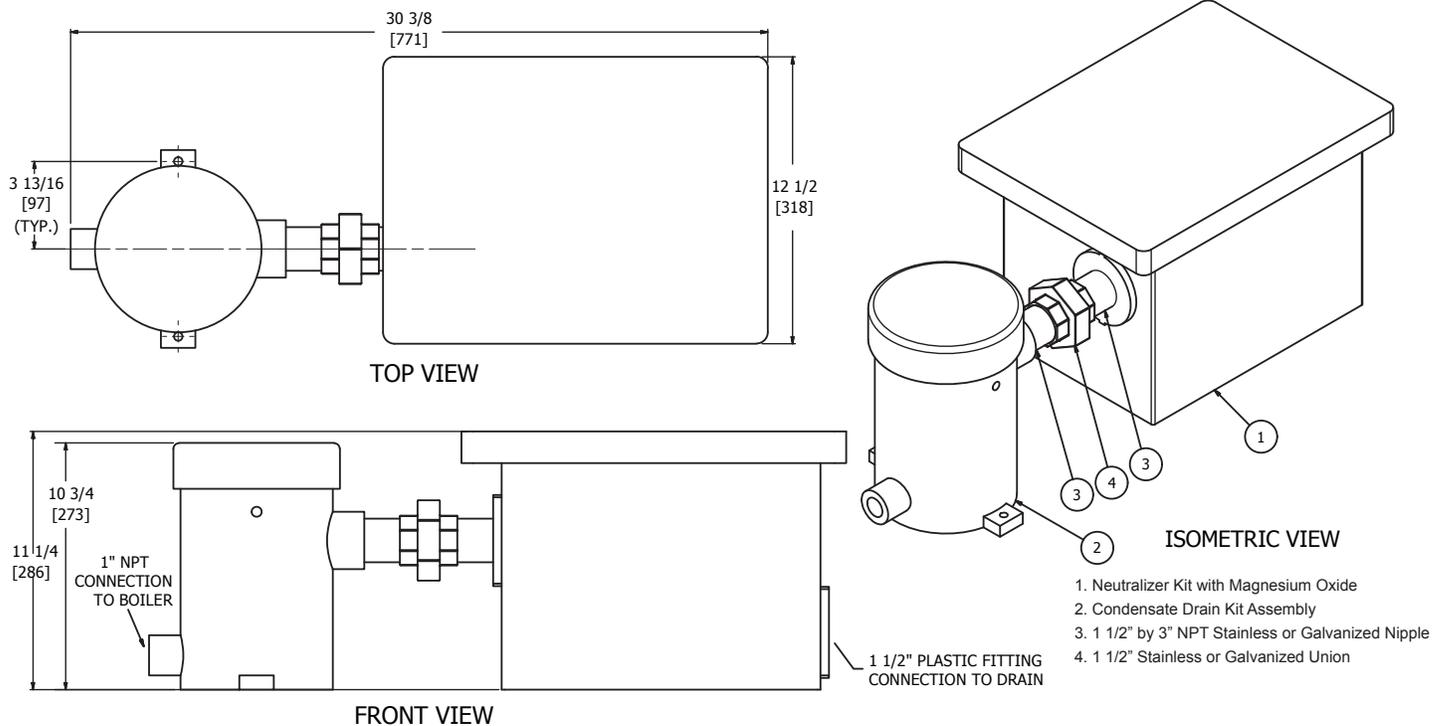

FIGURE 7 - FIELD CONNECTIONS FOR CONDENSATE DRAIN TO PH NEUTRALIZATION TANK
2. Connect kit downstream of Condensate Drain Trap. See Figure 7.